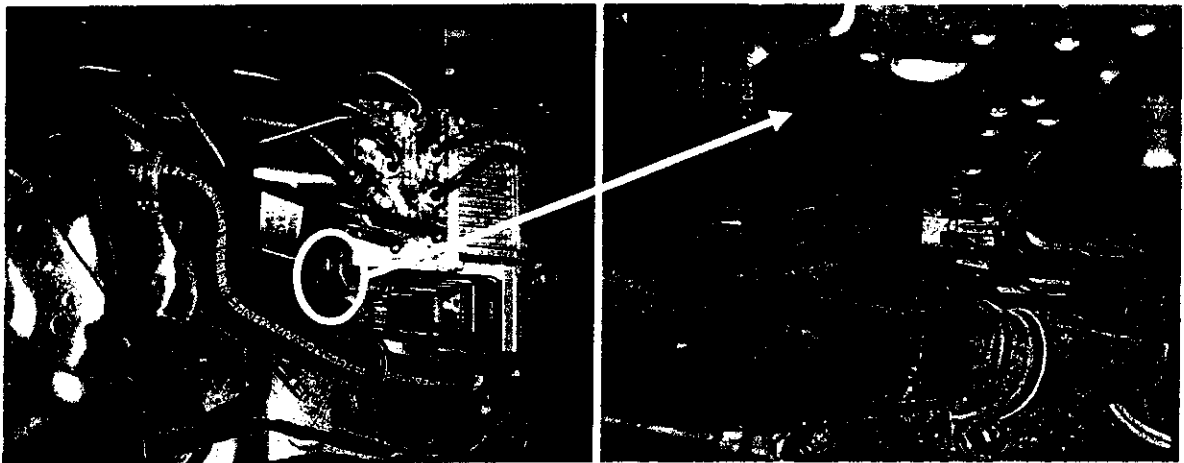

Figure 1: Bracket of hydraulic unit
2. Loosen bracket (A) with hose and place aside in order to have space to work (Figure 1).